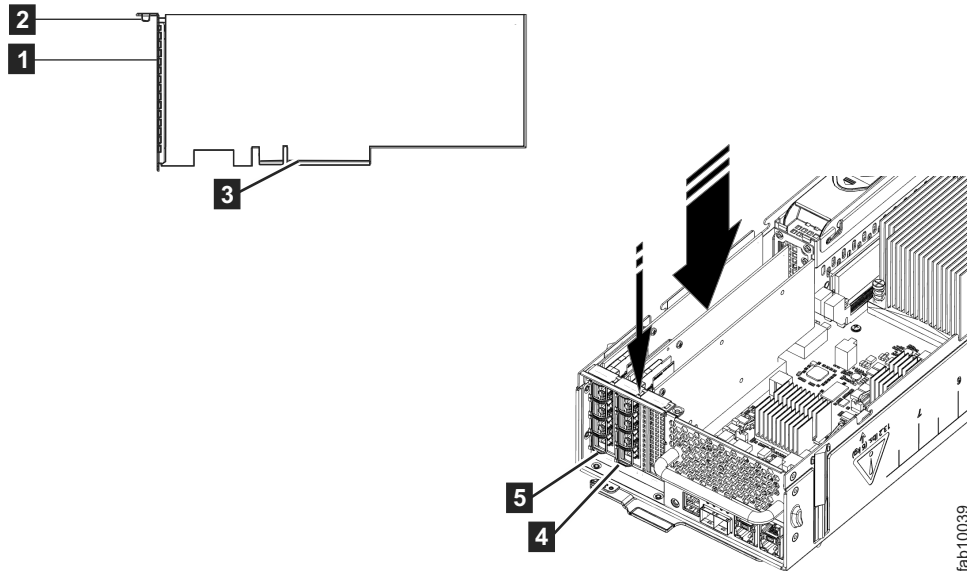

Figure 116. Installing the host interface card
6. Remove the replacement host interface card **1** from its package. Figure 116 on page 370 displays installing the host interface card.